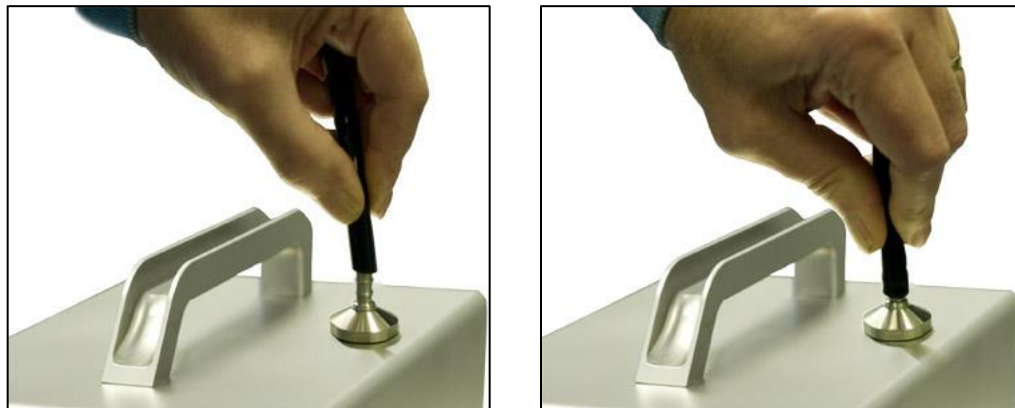

Figure 3-10 Installing Tubing onto Inlet
3. Place the other end of the sample tubing over the inlet barb and push down firmly until the tubing covers the full length of the barb. See Figure 3-10